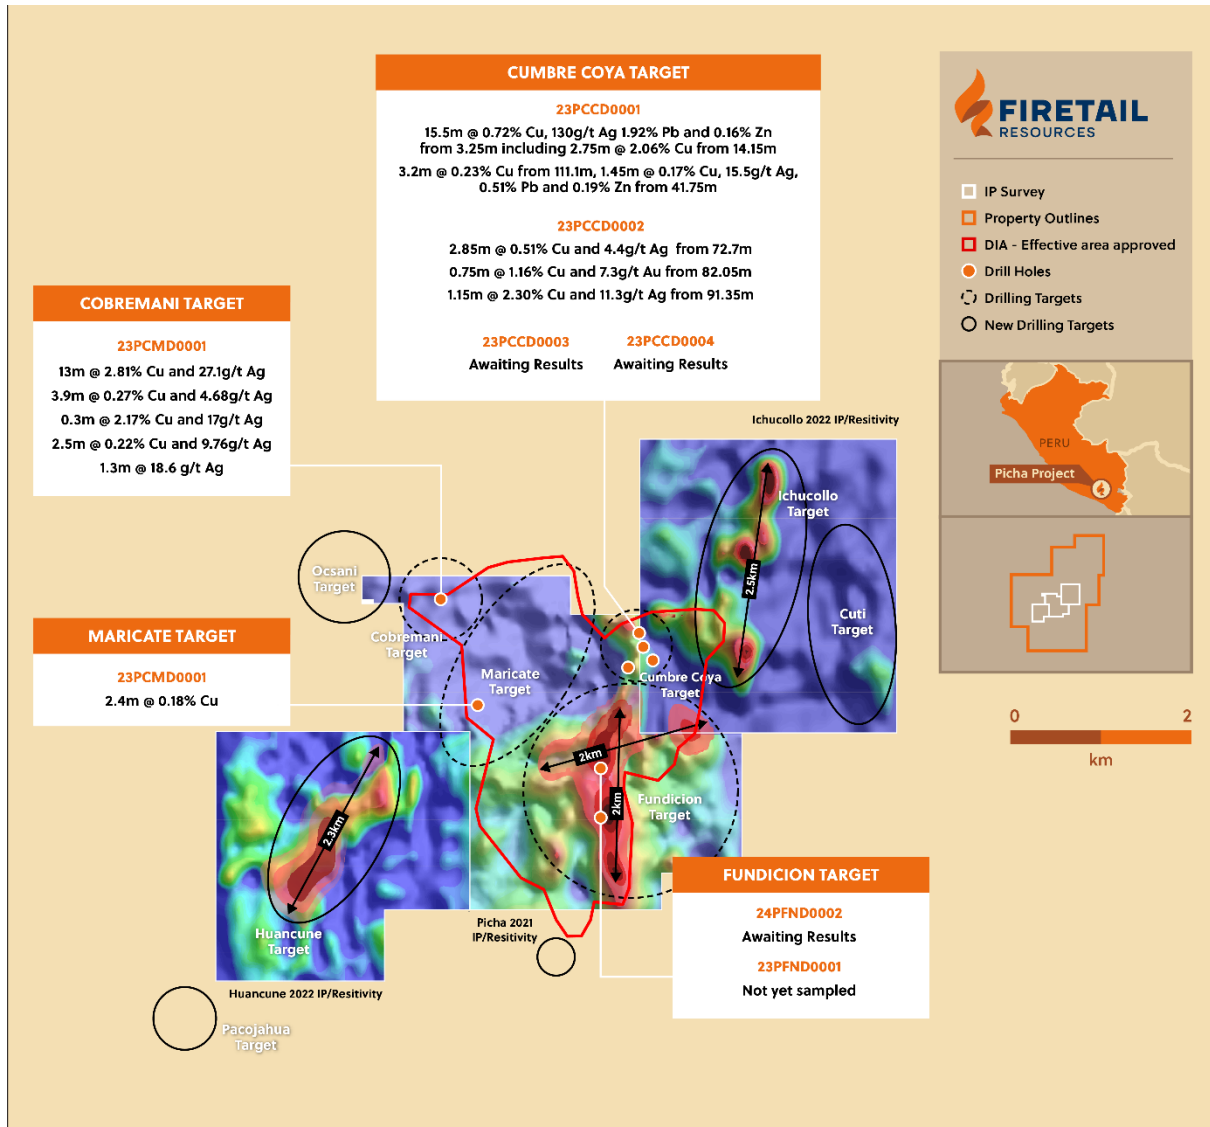

Figure 6: Picha Project drill program – results to date^{3,4}
A second drill hole, 24PFND0002, was completed at the Fundicion target, which was designed to test part of the Induced Polarisation (IP) chargeability anomaly (see Figure 6). This drillhole is located around 500m north of the first drillhole at Fundicion² (23PFND0001). See Table 1 for drillhole collar details.